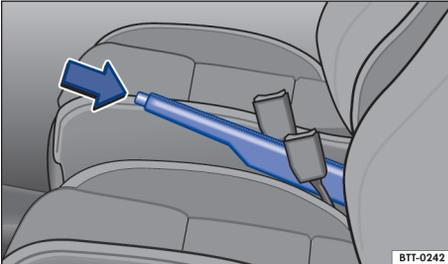

Fig. 114 Between front seats: handbrake lever.
- Press the interlock button and pull the handbrake lever upwards → Fig. 114 (arrow).
- Pull the handbrake lever slightly upwards and press the interlock button → Fig. 114 (arrow).